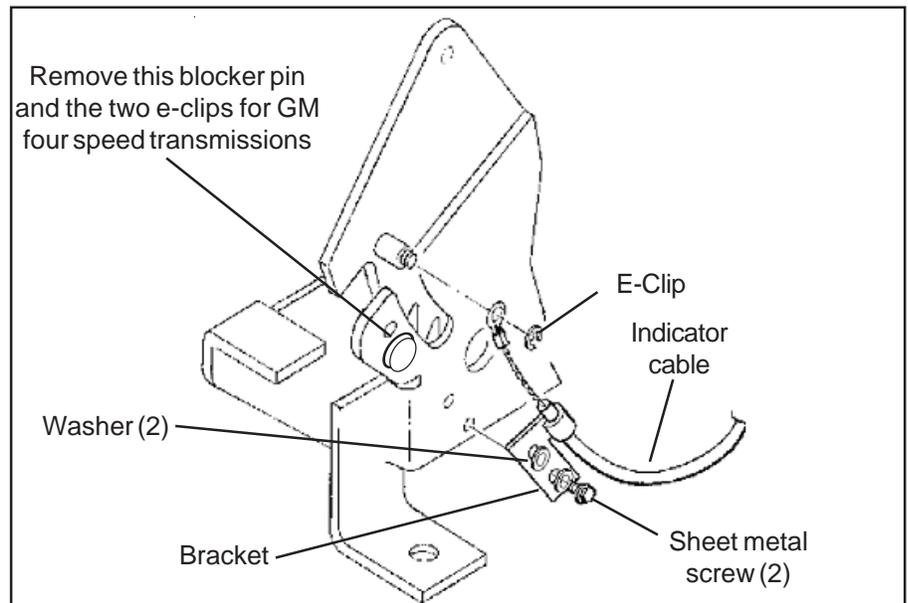

Figure 3
**STEP 9.** Just before the final installation of the shifter in the vehicle, attach the indicator cable to the side of the shifter as shown in **Figure 3**. The indicator cable bracket is secured to the shifter mechanism with two #6 x 3/4" sheet metal screws and #6 washers, the eyelet on the end of the indicator cable is secured to the cable pin by a supplied small e-clip.